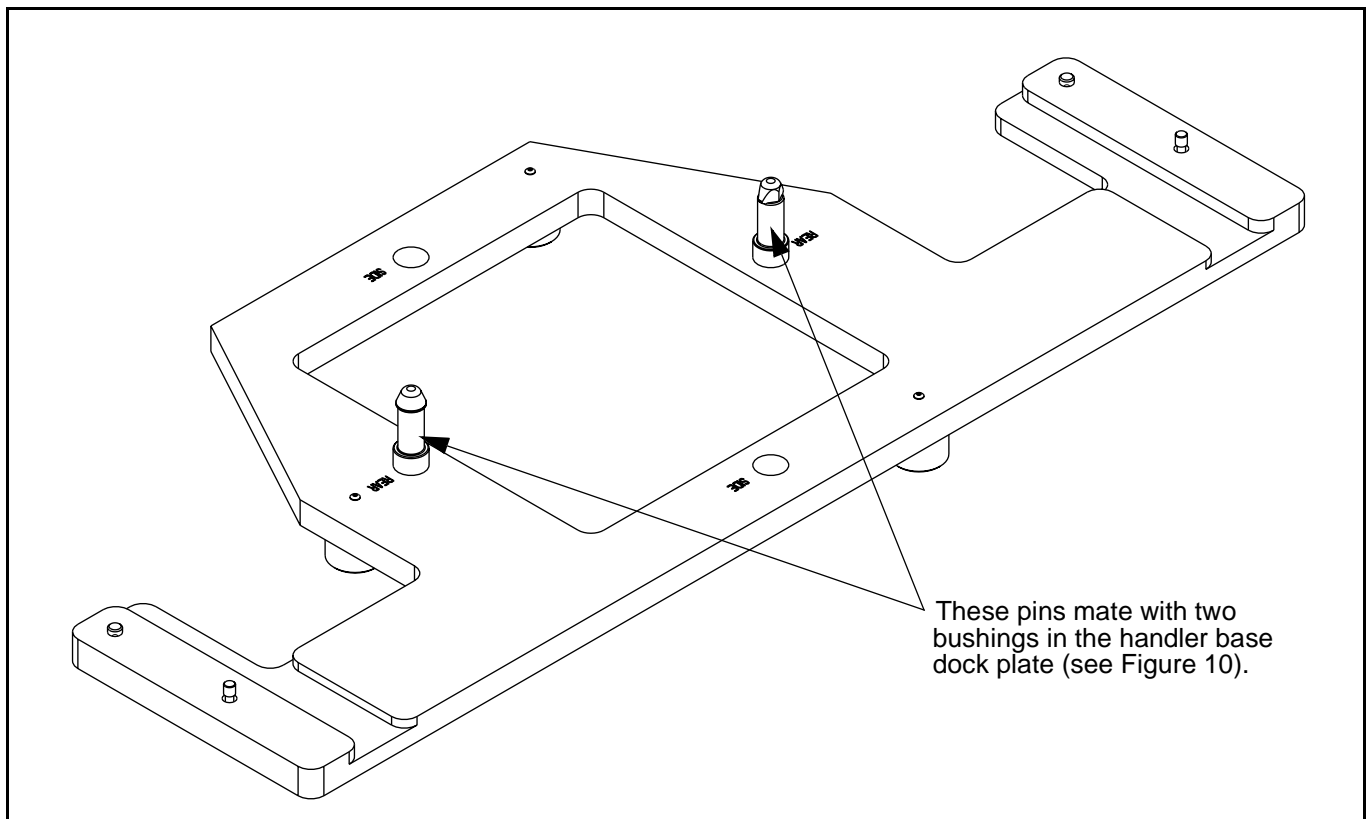

Figure 9 Alignment Tool Pin Configuration
- 6) To properly locate the interface assembly plate relative to the center of test, use the alignment tool (see Figure 9).